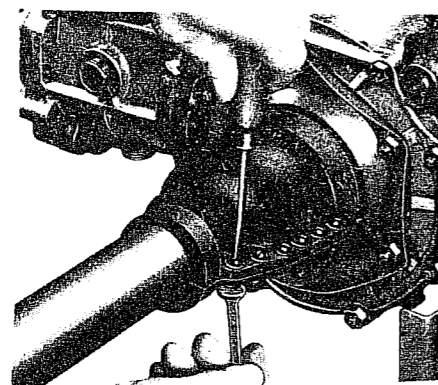

Fig. F.12. Fitting a split dust sleeve to the axle shaft - Swing axle.
4. Bolt up the split edge of the sleeve with the nuts, bolts and washers which are provided with the sleeve (Fig. F 12). Tighten them evenly so that the edge is not distorted. Do not overtighten; this can be easily done as there is only rubber between the nut and the head of the bolt.